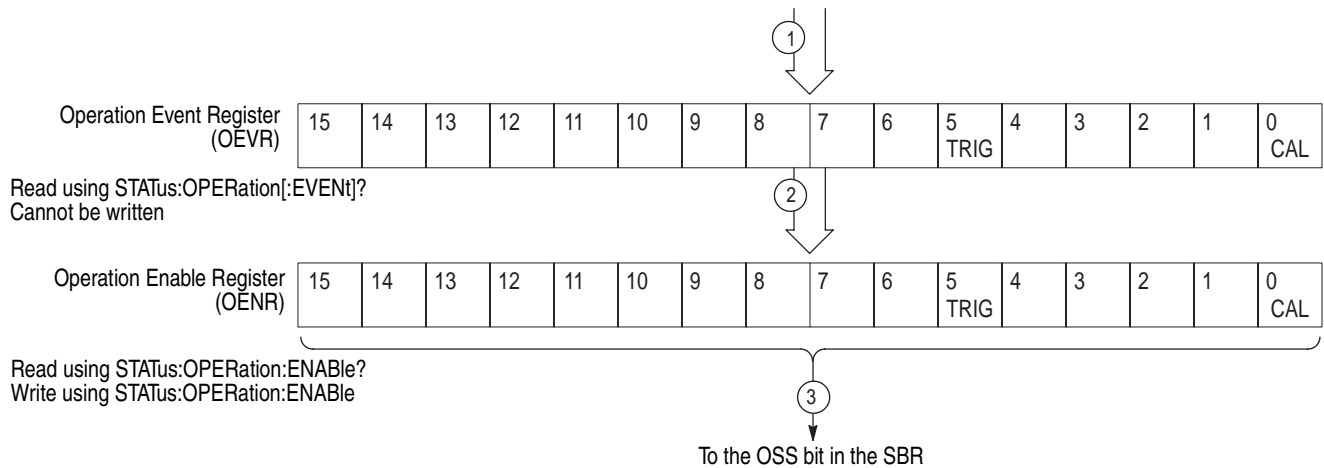
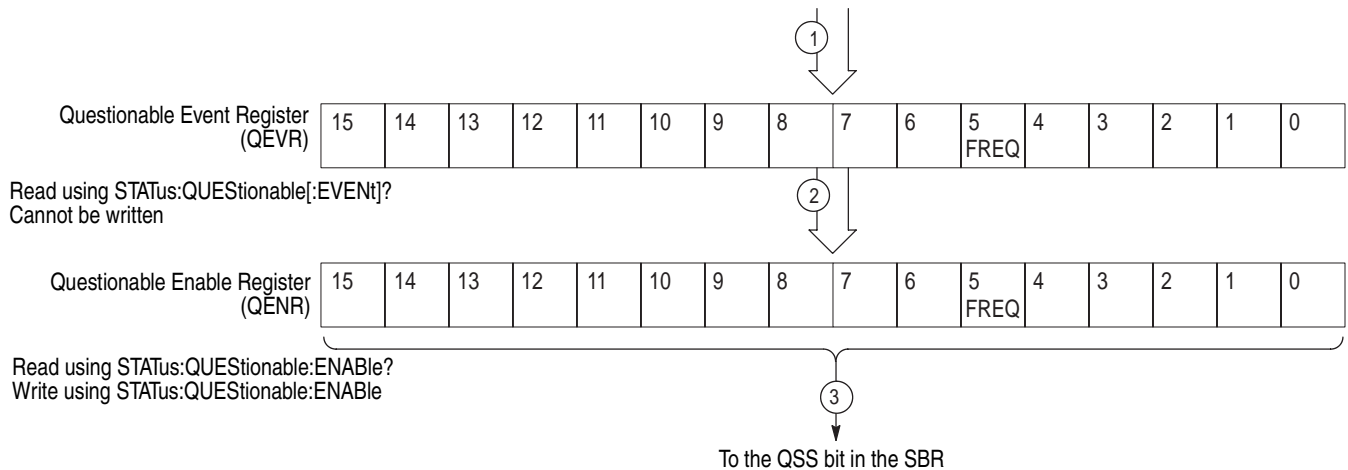
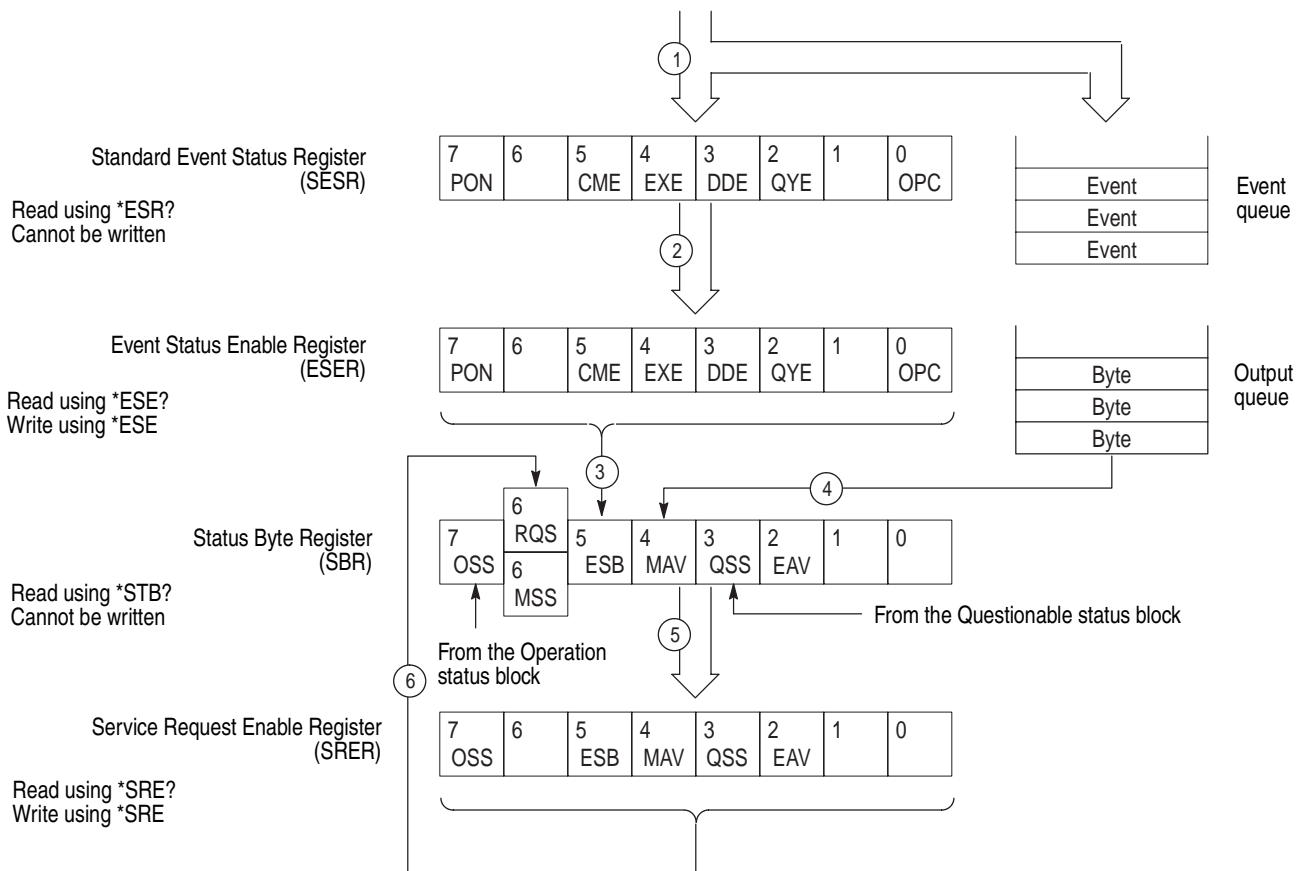

Figure 3-10: Status and Event processing sequence — Operation status block
Figure 3-11: Status and Event processing sequence — Questionable status block
Figure 3-12: Status and Event processing sequence — Standard/Event status block
Operation Status Block As illustrated in Figure 3-10 below, a signal is sent to the OEVR (1) when an event occurs. If the corresponding bit in the OENR is also enabled (2), the OSS bit in the SBR is set to one (3). [See Figure 3-12 on page 3-12].
Questionable Status Block As illustrated in Figure 3-11, when an event occurs, a signal is sent to the QEVR (1). If the corresponding bit in the QENR is also enabled (2), the QSS bit in the SBR is set to one (3). [See Figure 3-12 on on page 3-12].
As illustrated in Figure 3-12, when an event occurs, a signal is sent to the SESR and the event is recorded in the Event Queue (1). If the corresponding bit in the ESER is also enabled (2), the ESB bit in the SBR is set to one (3).